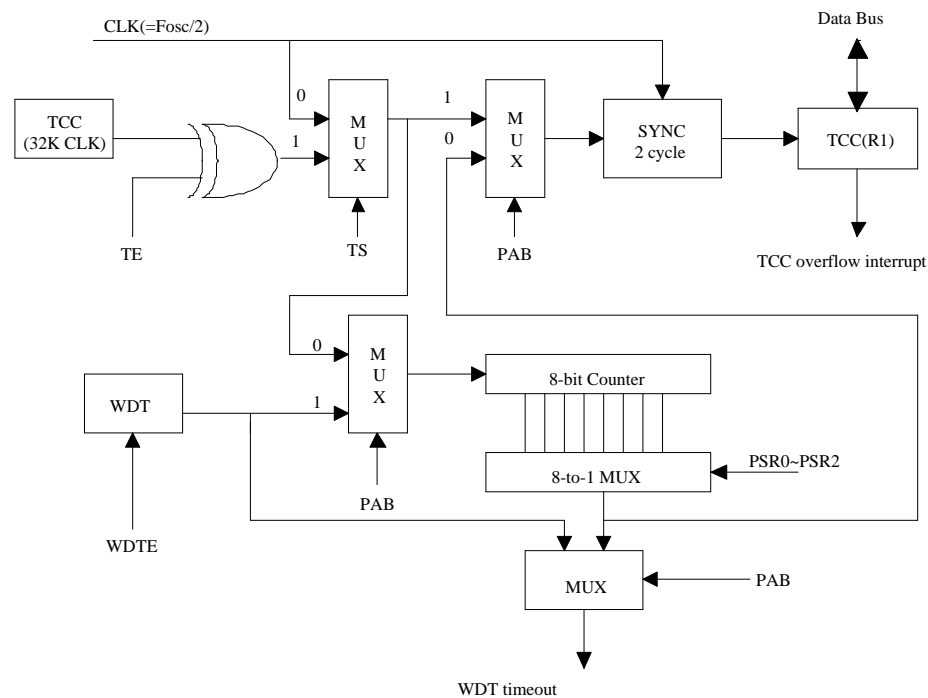

Fig. 10 Block diagram of TCC WDT
- Fig. 10 depicts the circuit diagram of TCC/WDT.